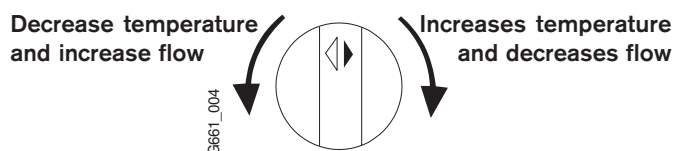

Fig. 10 - Principles of Operation
2. The gas valve must be turned off by putting the On/Off switch to position "O" (see fig. 10). Wait five (5) minutes to clear out any gas. If you smell gas, STOP! Follow "B" in the safety information above. If you don't smell gas, go to next step.
Turn off the manual lever on the gas supply line to the heater and set the ON/OFF switch to the OFF (O) position, see Fig. 10.
The On/Off switch is located behind the flipdown cover plate on the front panel strip. See fig. 10.